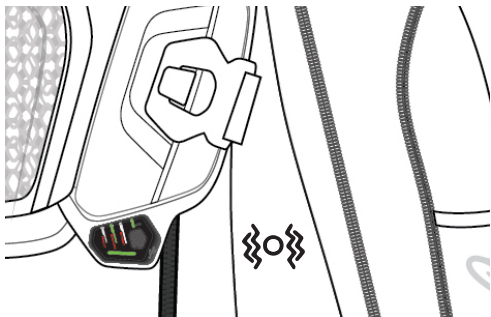

Figure 9: LED check phase
1) LED Check: during this phase the System will check if all the available LEDs are correctly functioning. The User will see that all the available LEDs (4c, 4d, 4e) will turn on SOLID GREEN for approximately one second and then will turn off (Figure 9);